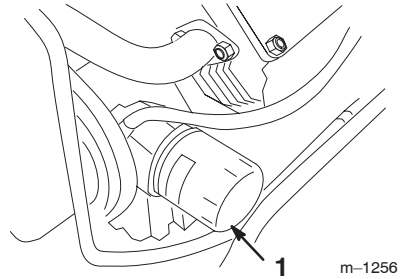

Figure 34
7. Remove the old filter (Fig. 34) and wipe the surface of the filter adapter gasket.